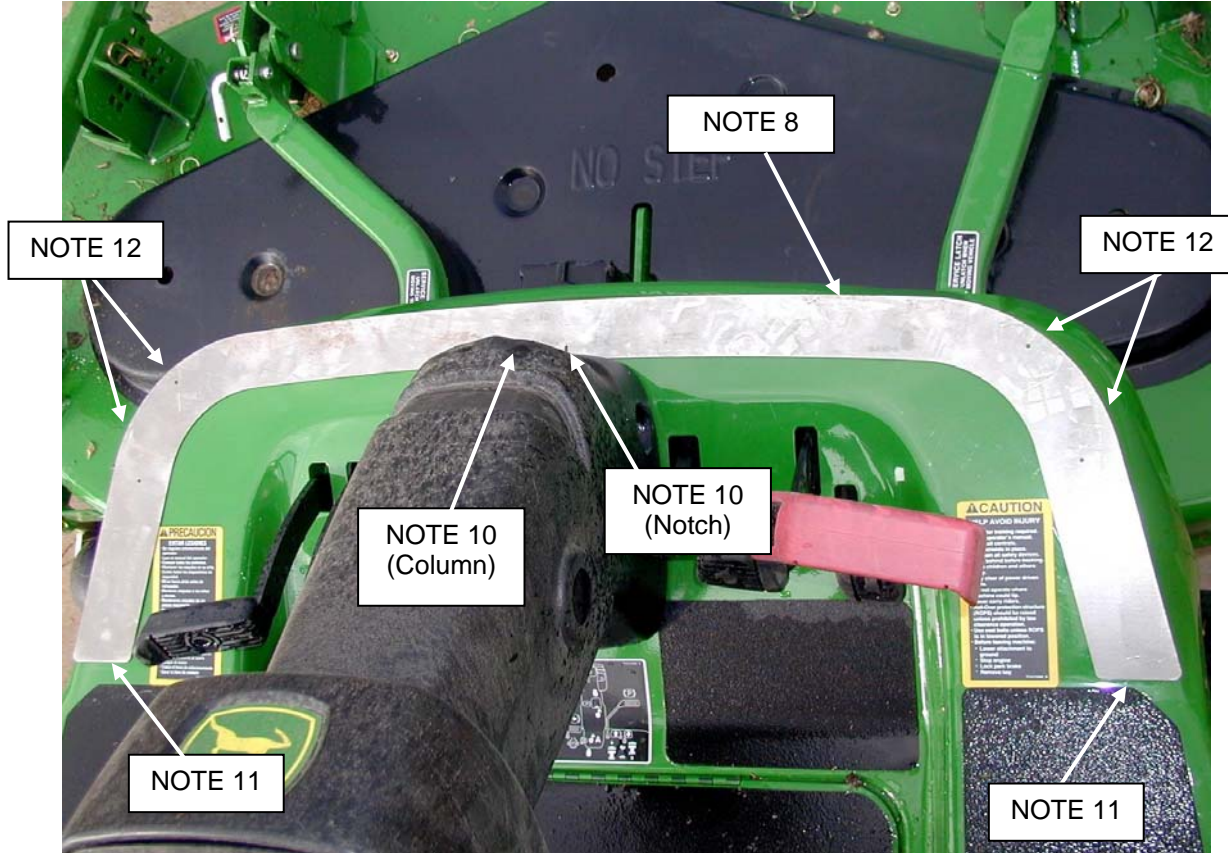

Figure 4
13. Drill all 4 holes to 7/16" diameter. See figure 4.